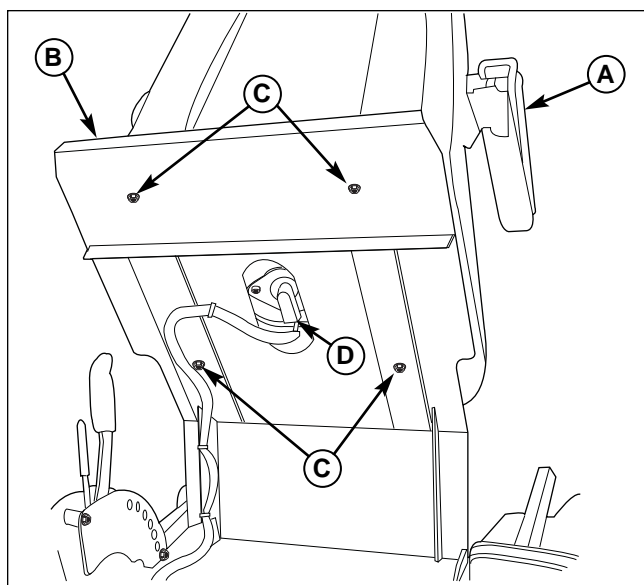

Figure 5. Seat Installation
1. Pivot the ground speed / steering control levers out to the NEUTRAL position and pivot the seat plate (B, Figure 5) forward.
2. Mount the seat (A) to the seat plate (B) using four 5/16-18 nylock flange nuts (C) and tighten securely.
3. Press the seat switch wire harness end (D) onto the seat switch until the latch of the seat switch wire harness end snaps down over the lock on the seat switch.